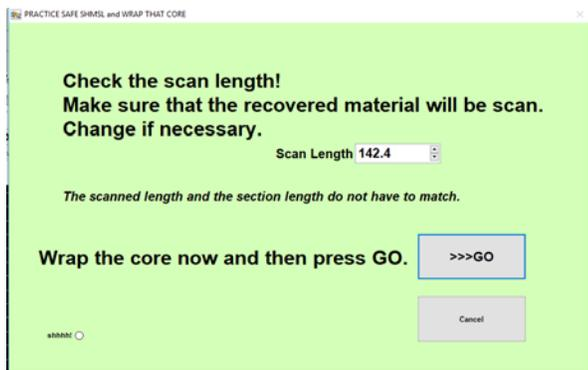
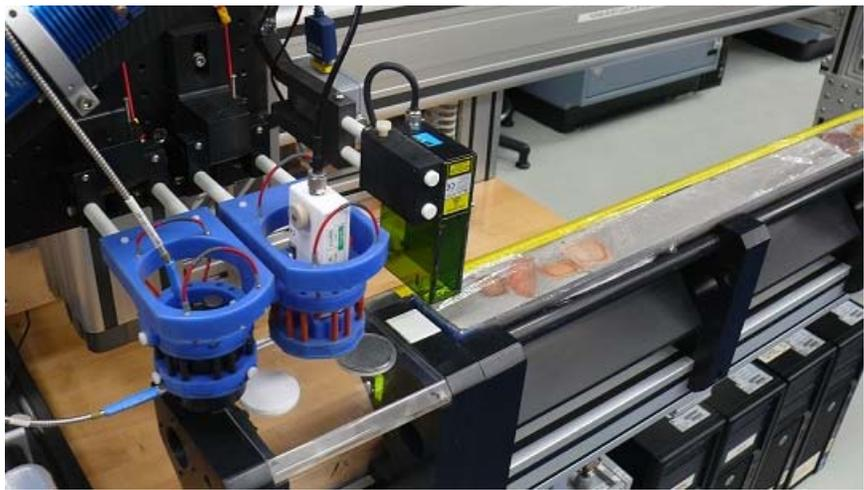

Figure 32. Final Sample Preparation
Figure 33. Wrapped Sample Ready to Analyze.
Core-half sections are measured on the SHMSL as soon as possible after splitting so that drying and oxidation do not affect ephemeral sample properties such as color reflectance. Sample preparation includes scraping to clean the core surface and covering wet core samples with plastic wrap to prevent contamination of the contact sensors (see Figure 33, below, but note that the sample must be laser-profiled before the wrap is applied).
- After the surface profile is completed, the measured section length as determined by the laser is displayed (Figure 32). Apply GLAD® Plastic Wrap to the surface of sediment cores as demonstrated by the PP Tech (Figure 33). Adjust the displayed length if needed in the **Scan Length** field and click **GO** to start the section measurement.